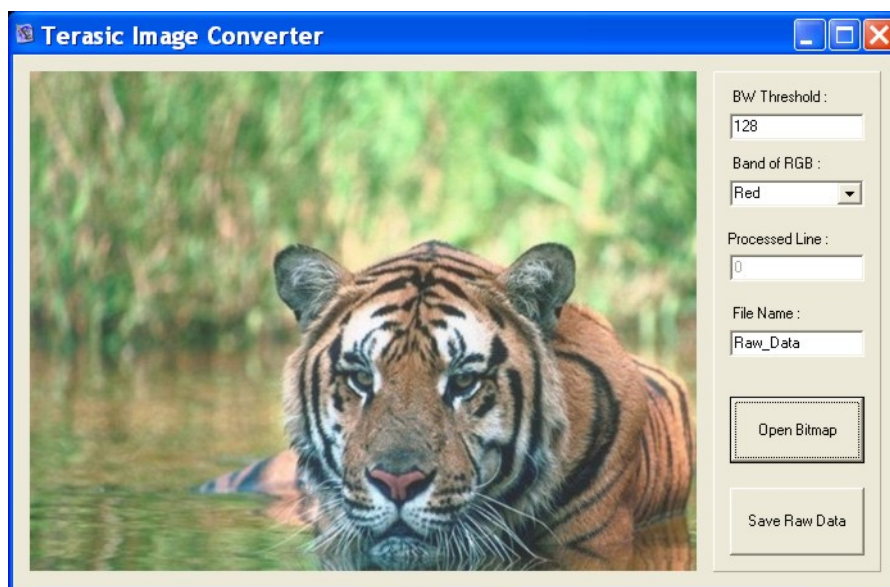

Figure 3.13. The image converter window.
3. Execute *DE2_control_panel\ImgConv.exe*, an image conversion tool developed for the DE2 board, to reach the window in Figure 3.13.